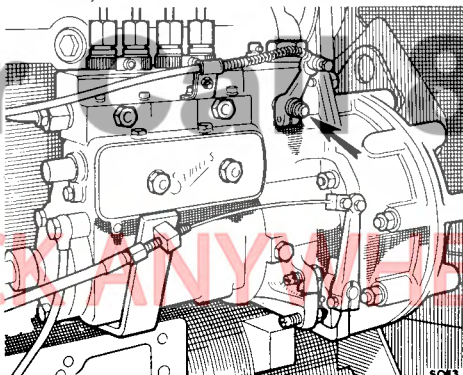

Fig. 11
- Press in the excess fuel button, (the button will return to its normal position as the engine starts). Operate the starter. (See Fig. 11 for location of excess fuel button).